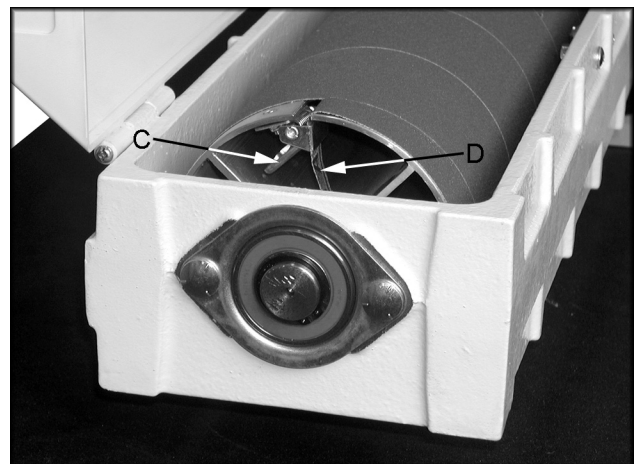

Fig. 8
3. Raise the fastener lever (Fig. 8, Item C) on the outboard end of drum, and insert the tapered end of the abrasive (Fig. 8, Item D) so that it uses most of the width of the slot. Lower the fastener lever to securely hold the strip end to the fastener.
4. The square edge of the abrasive strip should follow the edge of the drum, as shown in Figure 8.